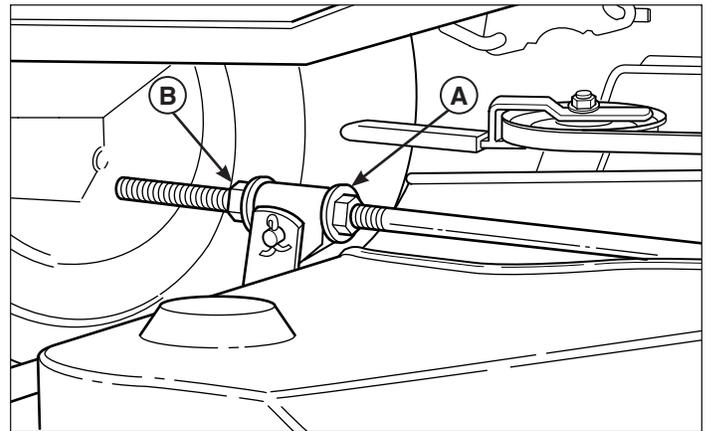

Figure 19
3. To raise front of mower deck, loosen front nut (**A**, Figure 19) and turn rear nut (**B**) against bracket. To lower front of mower deck, loosen rear nut and the bracket will move backwards to lengthen rod.